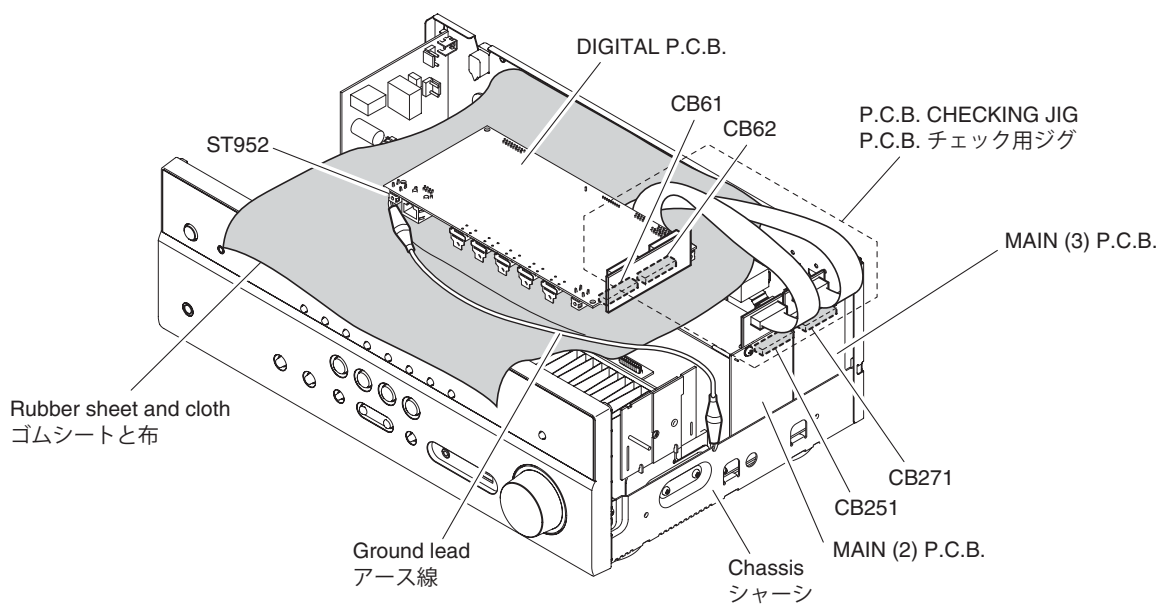

Fig. 5
- Put the rubber sheet and cloth over this unit, and place the DIGITAL P.C.B. on them. (Fig. 5)
- Connect ST952 on DIGITAL P.C.B. to the chassis with a ground lead. (Fig. 5)
- CB61 on DIGITAL P.C.B. – CB271 on MAIN (3) P.C.B.
- CB62 on DIGITAL P.C.B. – CB251 on MAIN (2) P.C.B.
- 本機の上にゴムシートと布を敷き、その上にDIGITAL P.C.B. を置きます。(Fig. 5)
- DIGITAL P.C.B. のST952のアースをリード線でシャーシに接続してください。(Fig. 5)
- DIGITAL P.C.B. のCB61 – MAIN (3) P.C.B. のCB271
- DIGITAL P.C.B. のCB62 – MAIN (2) P.C.B. のCB251